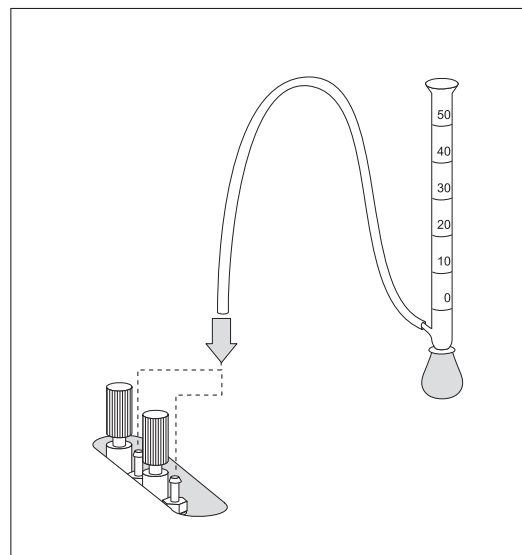

Figure 5-5. Bubble Flowmeter/Non-DPFC Connection
- graduated bubble flowmeter (the bulb must be half-filled with a soap solution), as shown in Figure 5-5